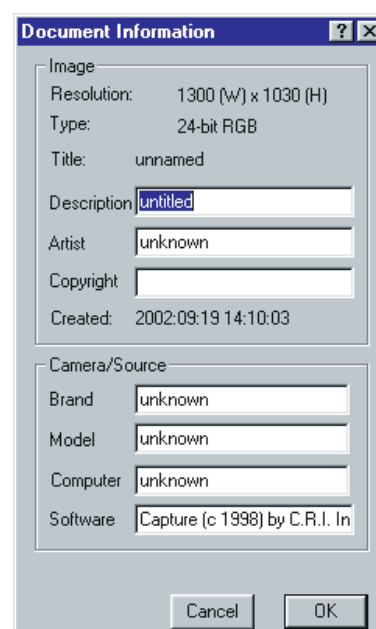

Figure 4-13 Document Information Box
- **SET IMAGE INFORMATION**, displays a Document Information screen into which you can enter optional information about an image. Figure 4-13 shows an example.